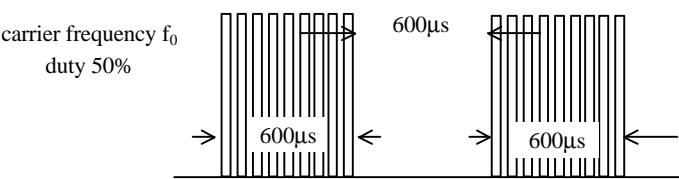

Fig 1. Burst Wave
- (1)Measuring place .....Indoor without extreme reflection of light.
- (2)Ambient light source... Detecting surface illumination shall be 200±50Lux under ordinary hite fluorescense lamp of no high frequency lighting.
- (3)Standard transmitter ... Burst wave indicated in Fig 1. of standard transmitter shall be arranged to 50mVp-p under the measuring circuit specified in Fig 2.